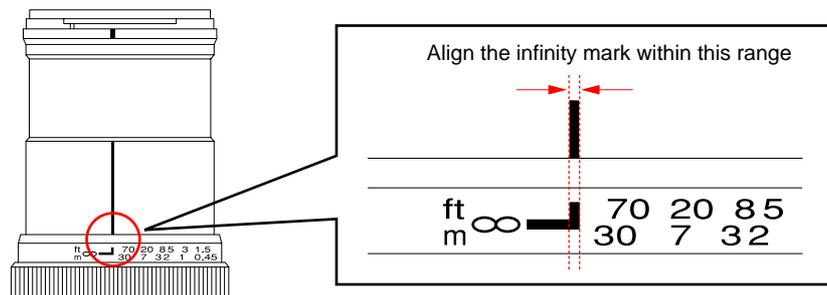

Fig. 4-4-6
- 2) By rotating the focus ring of lens to be checked, align with the infinity mark shown in Fig.4-4-6.